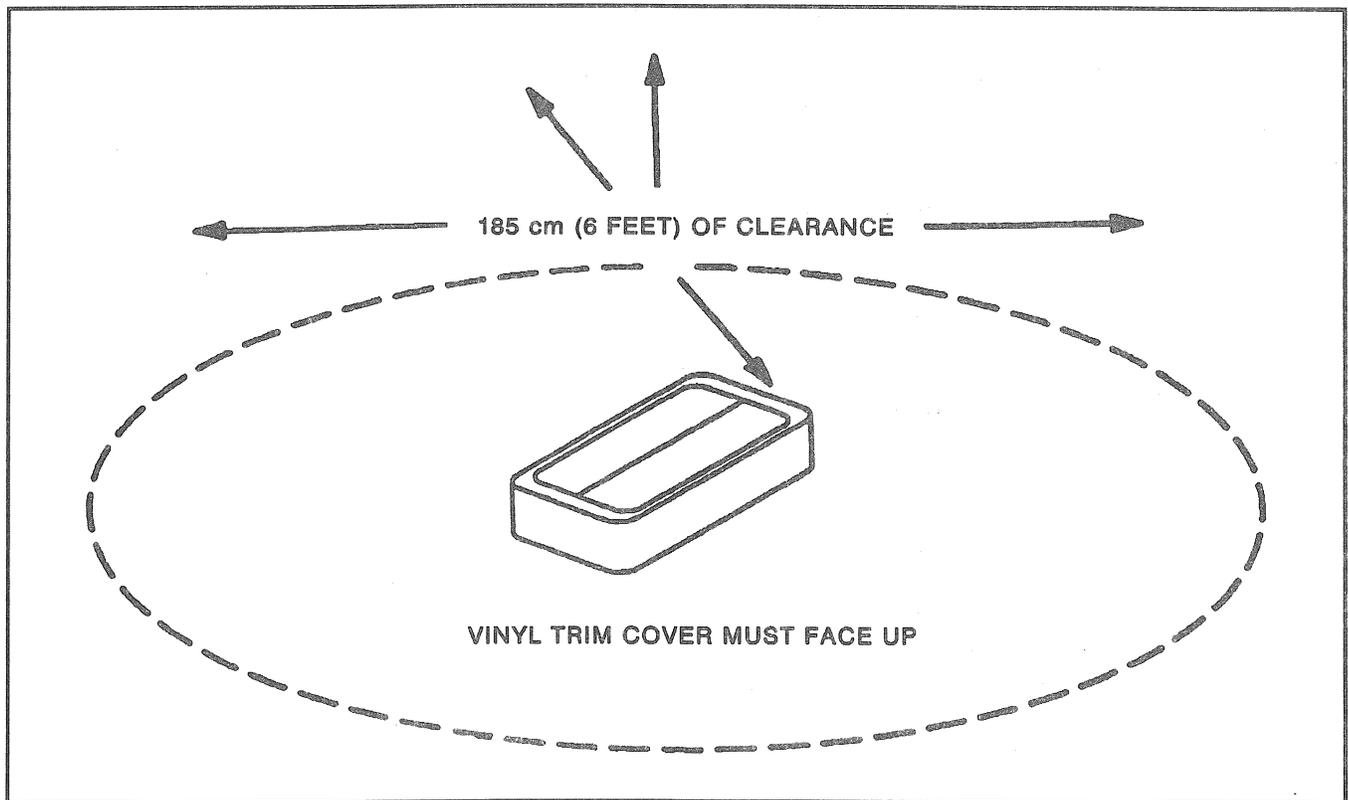

Figure 16—Provide Adequate Clearance for the Air Bag to Deploy
9. Clear a space on the ground about 1.85 meters (six feet) in diameter where the inflator module is to be deployed. A paved, outdoor location where there is no activity is preferred. If an outdoor location is not available, a space on the shop floor where there is no activity and sufficient ventilation is recommended. Ensure no loose or flammable objects are within the deployment area (Figure 16).
10. Place the inflator module, with its vinyl trim cover facing up, on the ground in the space just cleared (Figure 16).